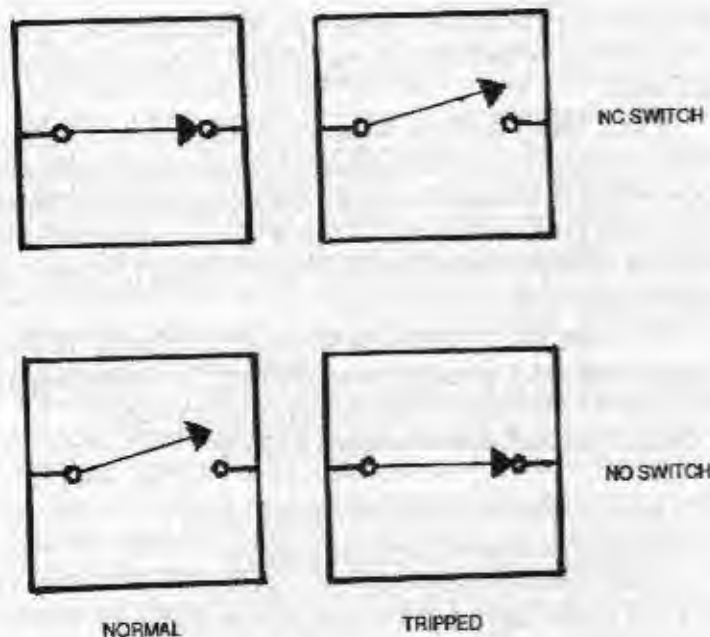

Figure 69. The difference between NO and NC switches.
es. The sensor switch will be either normally open or normally closed (fig. 69). A normally closed (NC) switch is a switch, magnetic or mechanical, in which the contacts are closed (electrically conductive) when no external forces act upon the switch. A normally open (NO) switch, on the other hand, is one in which the contacts are open or separated (electrically nonconductive) when no external forces act upon it. The control unit will sense when the status of one of its sensors is changing and then sound the alarm.